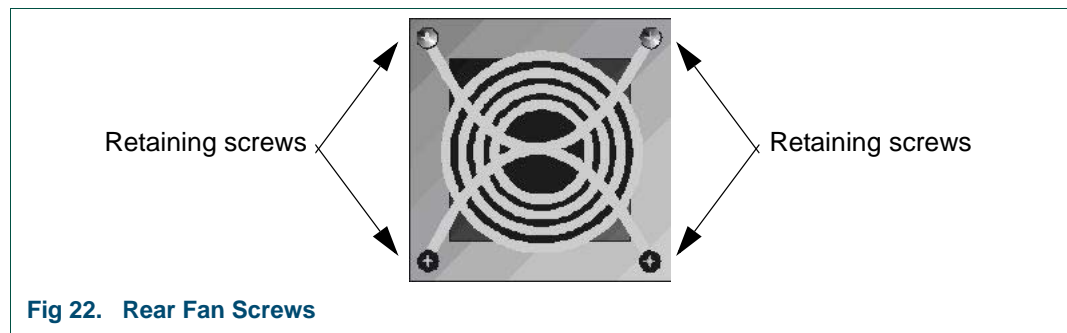

Fig 22. Rear Fan Screws
1. Unscrew the four retaining screws, see Fig 22. The screws are of the captive type and will remain with the assembly.